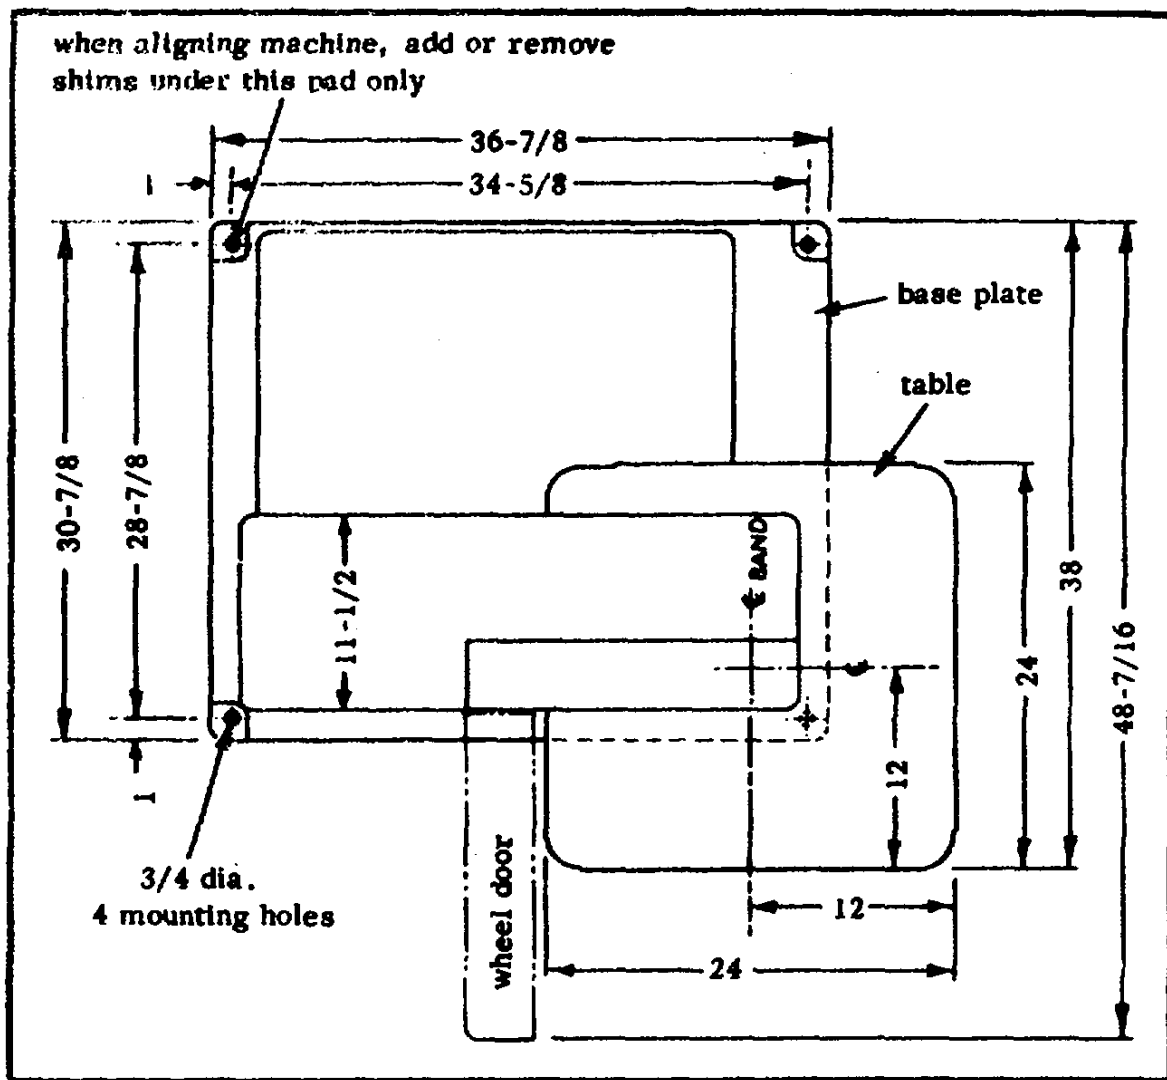
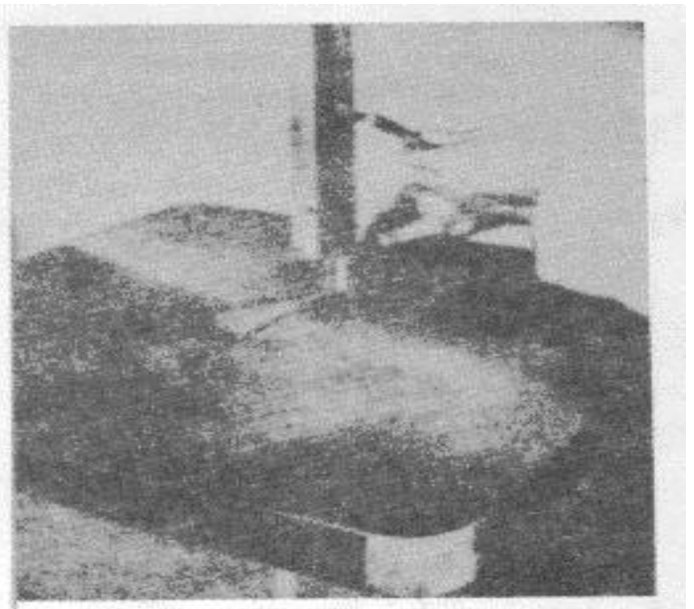

Fig. 2 - Top view, showing dimensions and mounting bolt holes.
Fig. 4 - Checking squareness of table to post.
(6) Adjust the gap by adding shims (to increase gap) or removing shims (to decrease gap) under only the mounting bolt location shown in fig 2.
(7) Replace table center plate and post saw guard.
(8) Loosen table tilt trunnion lock nut with the wrench furnished with the machine. Square the table to the post and check as shown in fig. 4 and 5. Tighten the trunnion lock.
(9) If necessary, adjust the trunnion pointer to zero.
(10) The center of the band should ride directly on the center crown of the wheel tire with the back edge of the saw band just touching the saw guide back-up bearings. Adjust upper wheel tilt if necessary so that the band will track properly, (see the tracking adjustment in the Operation Chapter).